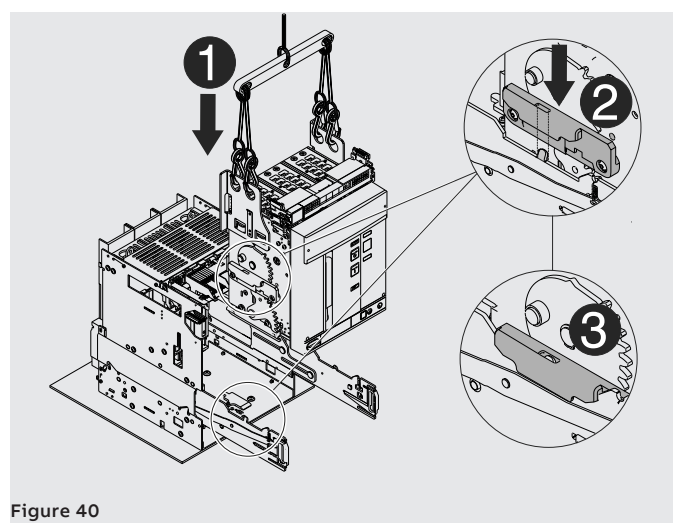

Figure 40
4. Position the moving part on the guides of the fixed part. Latch by inserting the hollow part of the side in the latch of the guide of the fixed part See Figure 40.